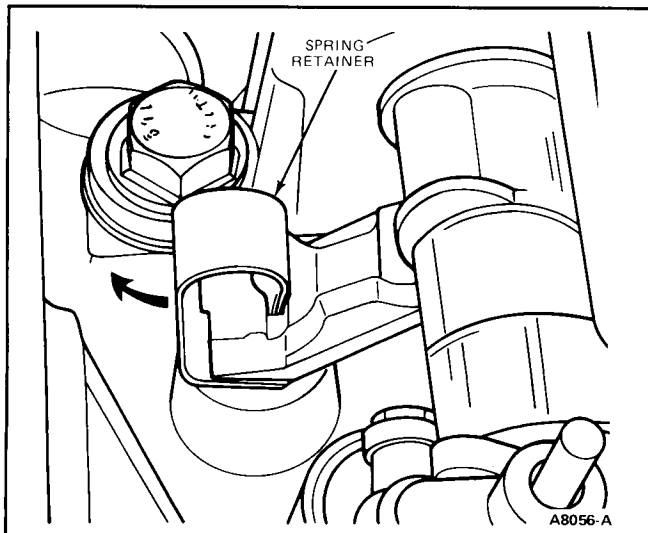

FIG. 14 Rocker Arm Retaining Clip
- Remove rocker arm retaining clip (Fig. 14).